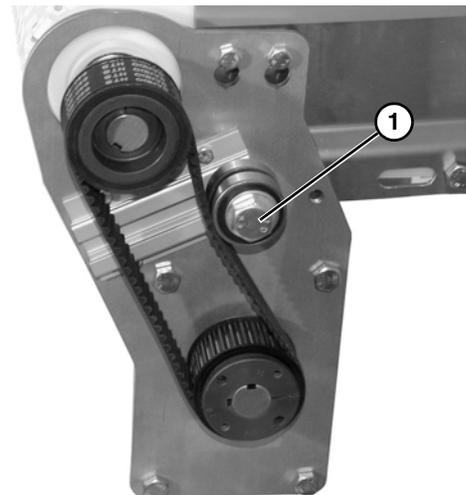

Figure 30
2. Loosen tensioner (Figure 30, item 1).